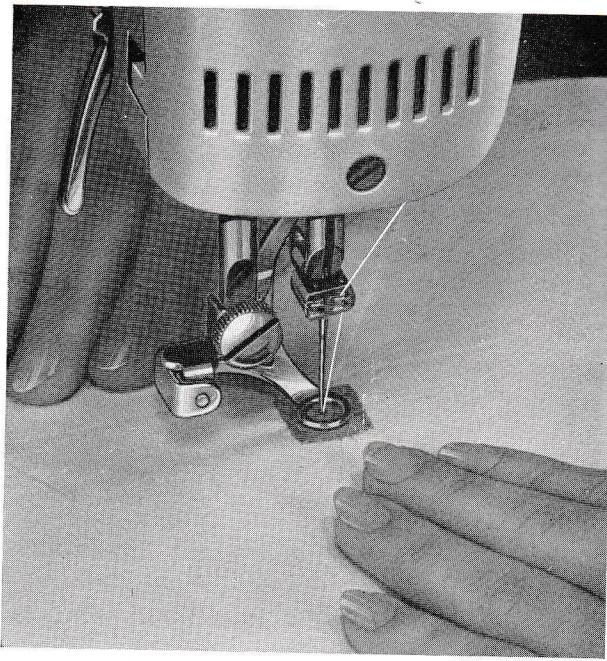

Fig. 58
**Procedure:** Place the material to be darned under the presser foot (Fig. 58).